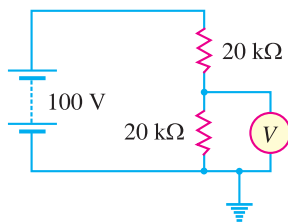

Fig. 22.28
1. A voltmeter is used to measure voltage across $20\text{ k}\Omega$ resistor as shown in Fig. 22.28. What will be the voltage value if (i) voltmeter has infinite resistance (ii) voltmeter has a sensitivity of $1000\ \Omega$ per volt and reads 100 V full scale ?
3. If the sensitivity of voltmeter in Fig. 22.28 is $500\ \Omega/\text{volt}$ (Full-scale reading being 100 V), what will be the reading of the voltmeter ?